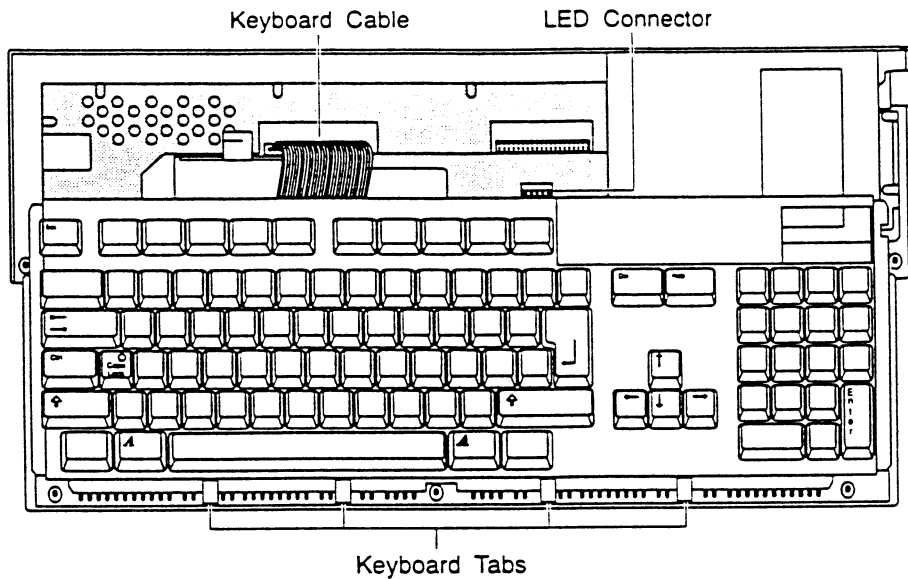

Figure 3-2. Removing the LED Connector and Keyboard
3. Remove the top panel. Lift the front corners of the top panel. Slide the panel toward the back of the system case. Locate the LED connector illustrated in Figure 3-2. Slide the LED off the connector carefully before completely removing the top panel.
4. Remove the keyboard cable. Locate the keyboard cable illustrated in Figure 3-2. To release the zero insertion force (ZIF) socket, grasp the top of the socket and carefully lift it up. Use a pair of needle-nosed tweezers, if necessary, to hold the top edge of the socket as you lift it up. To avoid cable damage you must release the socket before attempting to remove the cable. Hold the keyboard ribbon cable by its outside edges and slide it out of the socket. To insert the cable, make certain the socket is lifted up in the release position. Place the cable in the socket and gently push down on the cable's outside edges to press the socket down in a locked position.
5. Remove the keyboard. Locate the keyboard tabs illustrated in Figure 3-2. Hold the top outside corners of the keyboard and lift the upper edge up slightly. Slide the bottom edge of the keyboard out of the keyboard restraining tabs on the system case.